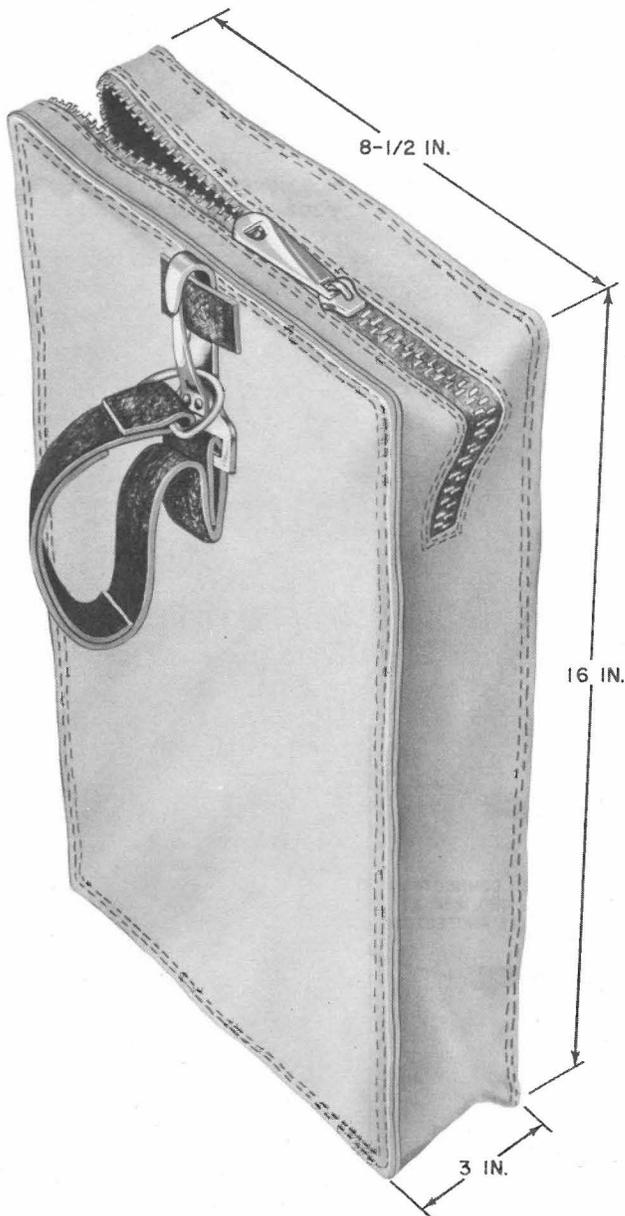

Fig. 7—B Glove Bag
3.08 The B glove bag (Fig. 7) is used to store the central office test cords.